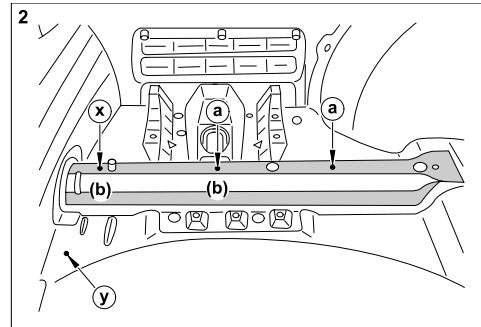

Fig. 2 : Holes in luggage compartment, left
- 5.) Drill a diameter 36 mm ø hole (" y ") at the centre punch mark in the luggage compartment floor between the left frame side member and spare wheel through for the cable leadthrough; see Fig. 2.